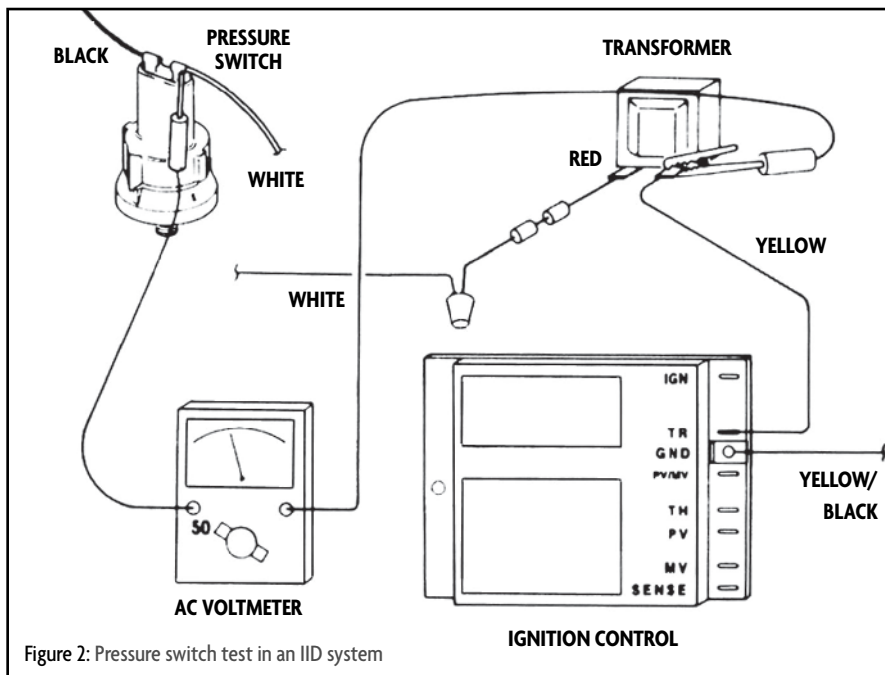

Figure 2: Pressure switch test in an IID system
- Check the circuitry. With the lead from the voltmeter still in contact with the ground or common terminal on the transformer, check for voltage along the circuitry, starting with the safety fuse; use the other lead of the meter as a probe. Then move to the fusible link, the high-limit switch and the pressure switch (see Figure 2). If there's voltage at these points, the parts are good. If not, you need